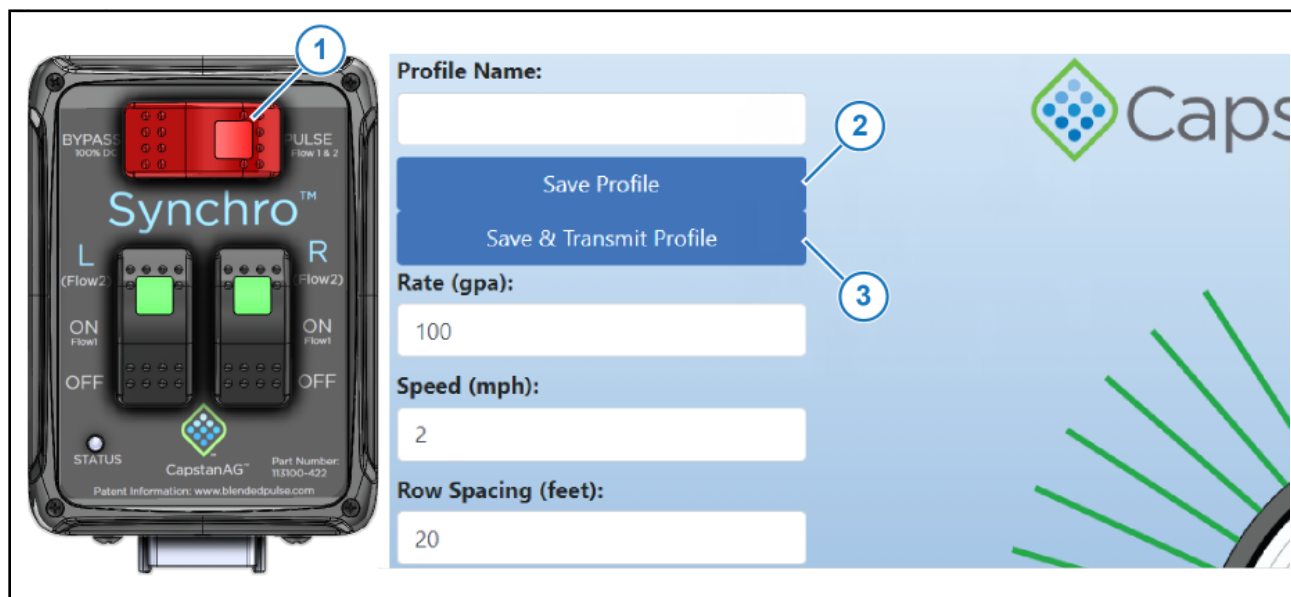

Figure 17: Controller Wi-Fi Profile Builder
1. On the cab box, toggle the red **Synchro** switch (Figure 17, Item 1) to **PULSE**.
5. Click on **Save Profile** (Figure 17, Item 2) or **Save & Transmit Profile** (Figure 17, Item 3).